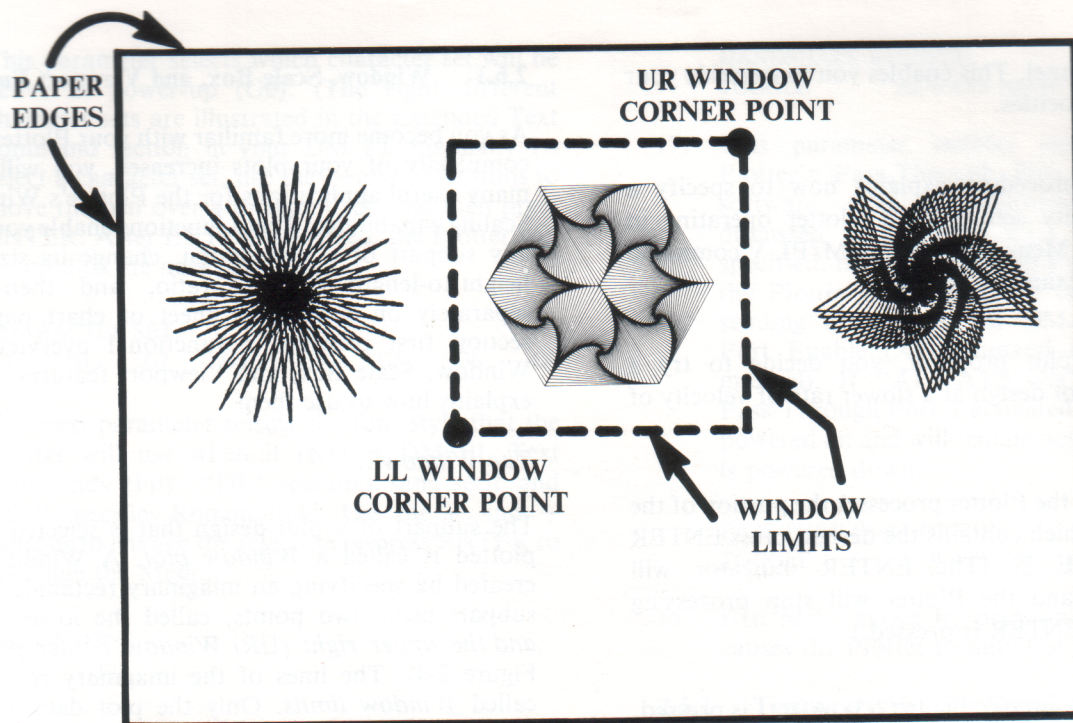
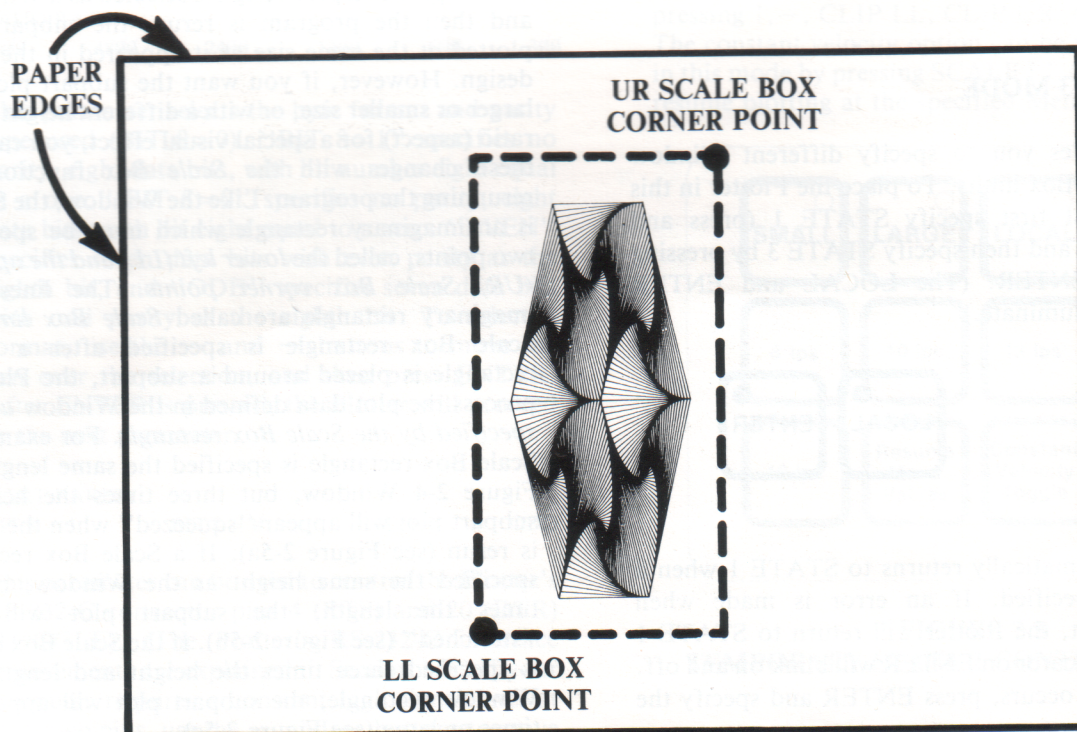
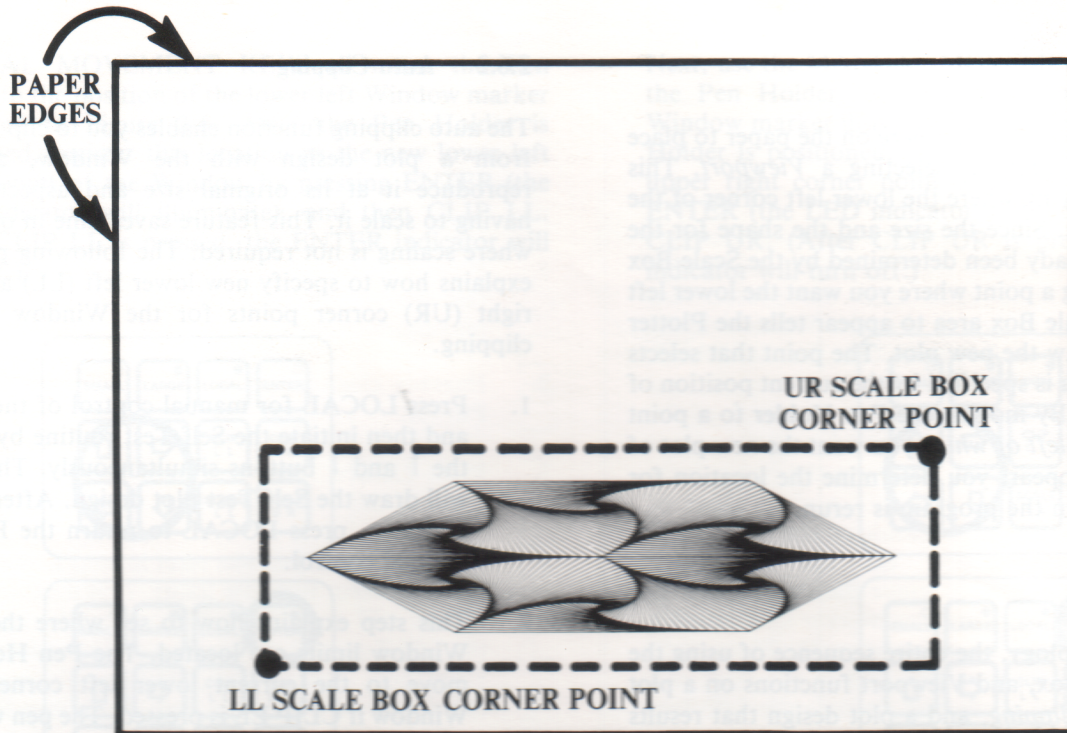
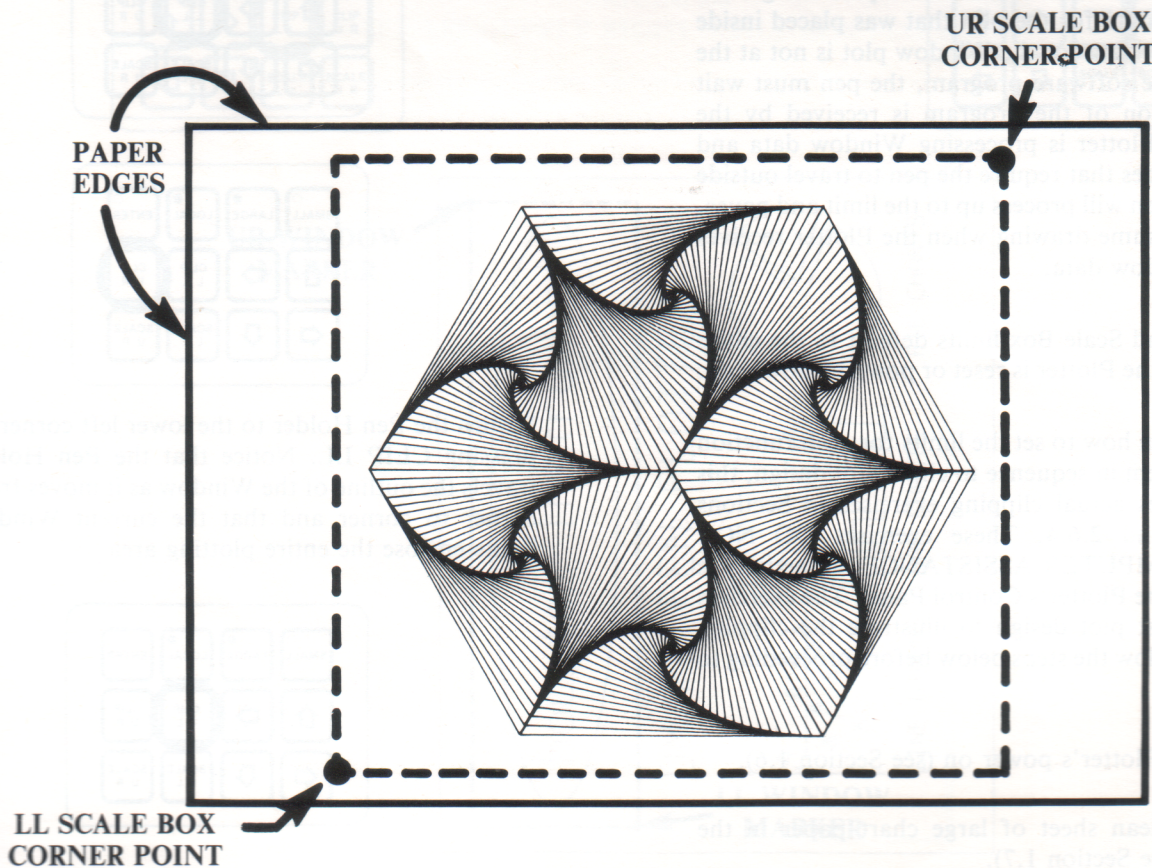

FIGURE 2-4
FIGURE 2-5a
FIGURE 2-5b
FIGURE 2-5c
The subpart of a plot design that is selected to be re-plotted is called a *Window plot*. A Window plot is created by specifying an imaginary rectangle around a subpart using two points, called the *lower left (LL)* and the *upper right (UR)* *Window corner points* (see Figure 2-4). The lines of the imaginary rectangle are called *Window limits*. Only the plot data within the specified Window limits will be processed by the Plotter when the design's program is rerun, thus, only the subpart (Window plot) will be plotted on the paper.
If a subpart of a plot design is selected as a Window plot and then the program is rerun, the subpart will be plotted at the same size as it appeared in the full plot design. However, if you want the subpart plotted at a larger or smaller size, or with a different height-to-width ratio (aspect) for a special visual effect, you can specify these changes with the *Scale Box* function before rerunning the program. Like the Window, the Scale Box is an imaginary rectangle which must be specified by two points, called the *lower left (LL)* and the *upper right (UR)* *Scale Box corner points*. The lines of the imaginary rectangle are called *Scale Box limits*. If a Scale Box rectangle is specified after a Window rectangle is placed around a subpart, the Plotter will process the plot data defined in the Window *at the size specified by the Scale Box rectangle*. For example, if a Scale Box rectangle is specified the same length as the Figure 2-4 Window, but three times the height, the subpart plot will appear "squeezed" when the program is rerun (see Figure 2-5a). If a Scale Box rectangle is specified the same height as the Window, but three times the length, the subpart plot will appear "stretched" (see Figure 2-5b). If the Scale Box rectangle is specified three times the height and length of the Window rectangle, the subpart plot will appear three times as large (see Figure 2-5c).